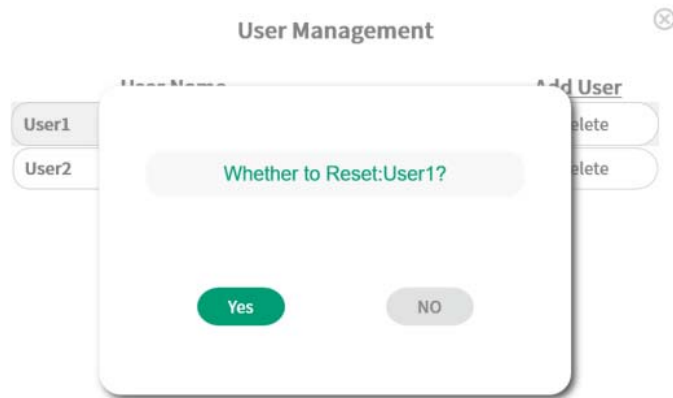

Figure 5-10 Reset User
- **Reset:** Click reset after selecting a user and there pops up a window where prompts whether to reset the user. Click “Yes” to reset the password as 123456 while click “No” to cancel the reset operation, as shown in figure 5-10.